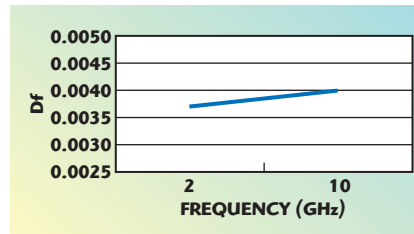

Fig. 2 Df vs. frequency by stripline.
**Figure 1** shows Dk versus frequency from 2 to 10 GHz demonstrating stability across the entire frequency range. It has a Df of 0.004 at 10 GHz by stripline; **Figure 2** shows stable Df across the same 2 to 10 GHz frequency range. This electrical performance is also stable over temperature from -40° to 80°C,